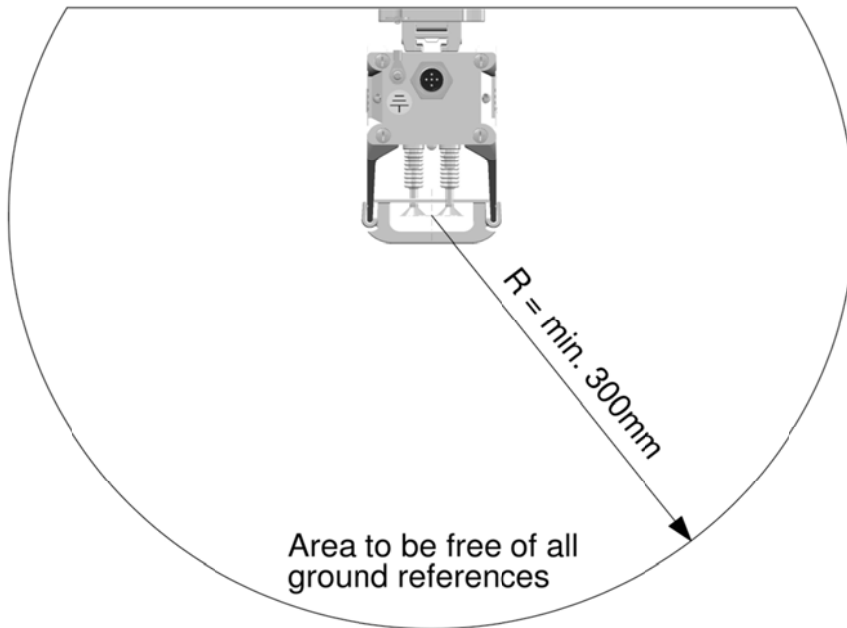

Figure 4
- **Pour les distances minimales, cf. Figure 4.**